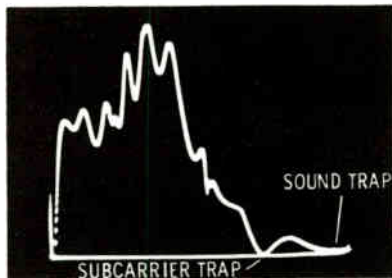
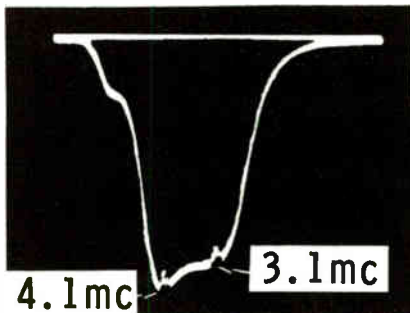
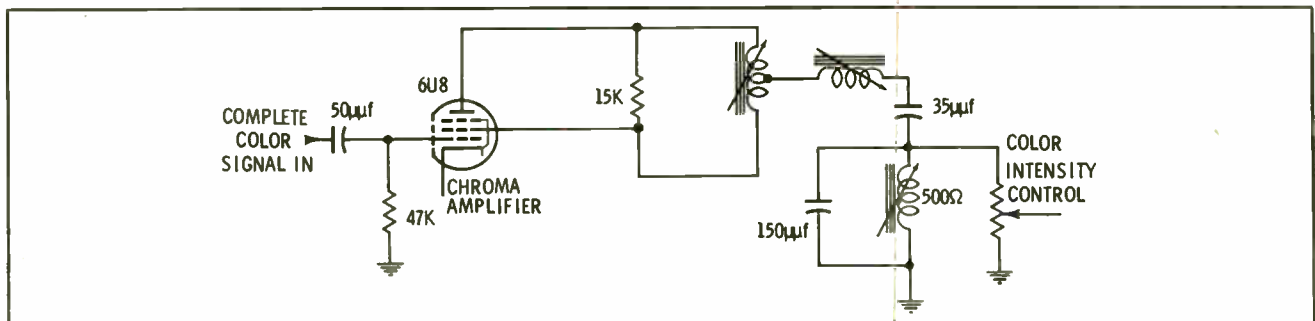
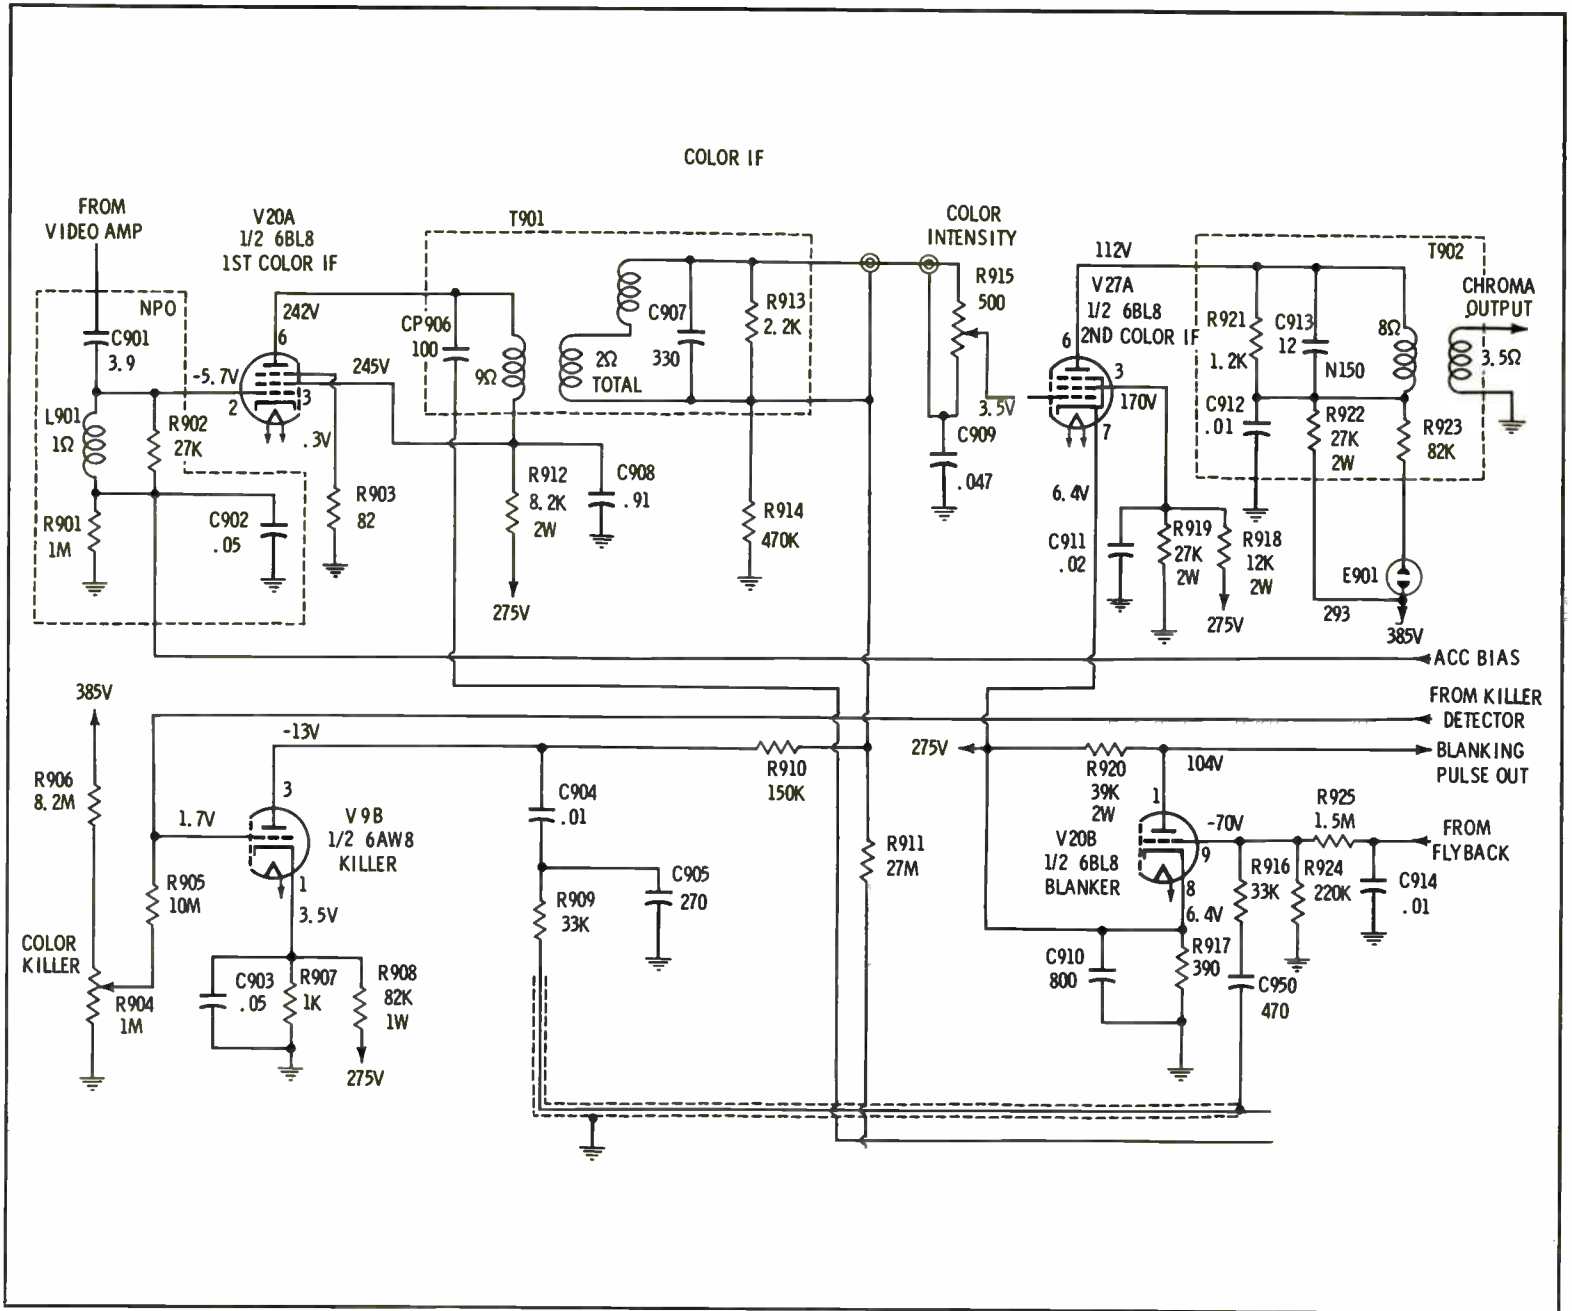

Fig. 5-4. Frequency-response curve for a Y amplifier.
Fig. 5-5. Frequency-response curve for a bandpass amplifier.
Fig. 5-6. Chroma amplifier.
Fig. 5-7. Color I-F amplifiers.
A frequency-response curve for one type of Y amplifier is shown in Fig. 5-4. It is evident that frequencies below 3.58 mc are passed, while the chroma signal is blocked. The frequency response for a chroma-bandpass amplifier is shown in Fig. 5-5. Notice that the 3.58-mc chroma signal is passed, while the comparatively low-frequency Y signal is blocked. Common
You will find circuit configurations of different color receivers utilized in this section. A common method of attenuating the Y signal is to employ a small coupling capacitor at the input of the chroma amplifier (50-mmf capacitor in Fig. 5-6). Subsequent separation of the chroma and Y signals is accomplished by the tuned circuits in the plate branch of the 6U8. When the slugs are adjusted correctly, a chroma response curve similar to the one shown in Fig. 5-5 is obtained. Note that the "notches" in the curve are not introduced by the chroma amplifier. These are frequency markers (absorption markers) produced by the sweep-alignment equipment.
The chroma amplifiers are sometimes called color i-f amplifiers (Fig. 5-7). Regardless of terminology, the function of this receiver section is always the same. There are several basic features that we should observe in Fig. 5-7. First, the gain of the chroma amplifiers, adjusted for normal reception, is not great. The signal at the grid of the first color i-f stage has an amplitude of 14.5 volts p-p. The signal at the plate of V20A has an amplitude of 20 volts p-p. The principal function of this stage is not to increase chroma signal voltage, but to process the signal and maintain a relatively constant level via acc action. The automatic-control bias on the grid of V20A is proportional to the burst amplitude.
Second, there is a reserve gain in the first stage. Note that the 20-volt p-p signal at the plate of V20A is normally reduced to 2 volts p-p at the grid of V27A in Fig. 5-7. This reduction is caused by the voltage-divider action of the color-intensity control. V27A provides a gain of about 4 times. In case the received signal is weak, the color-intensity control can be advanced to obtain the normal 9-volt p-p output at the plate of V27A.
Pulsing the cathode of V27A causes the chroma signal at the plate to ride on a sawtooth waveform. The sawtooth is incidental and has no functional significance. In other words, the chroma output from T902 in Fig. 5-7 consists of the chroma signal only. The sawtooth has been suppressed, because transformer T902 has a center frequency of 3.58-mc and cannot respond to the comparatively low frequencies that make up the sawtooth waveform. We see that a high-frequency tuned transformer can be compared in this respect with a small coupling capacitor, such as the 50-mmF capacitor in Fig. 5-6.
A word of caution concerning alignment is in order here. Do *not* check the alignment of the chroma amplifier until all other trouble possibilities have been eliminated. You will find that misalignment is seldom the cause of trouble in this section, unless someone has misaligned the receiver. Of course, there are rare exceptions: for example, it is possible for a defect to occur in L901, T901, or T902 (Fig. 5-7) which throws the transformer out of alignment. Since such defects seldom occur, it is good practice to investigate all other components first.
signal channel have been checked or replaced. If you find a normal waveform at the grid of the first chroma-amplifier tube (V20A in Fig. 5-7), the possibility of trouble in the black-and-white section of the receiver can be dismissed.
The possibility of trouble from the acc section is quickly confirmed by measuring the bias at the grid of the color amplifier (V20A in Fig. 5-7). In this example, the normal operating bias is  $-5.7$  volts. You can clamp the acc bias line, if it seems desirable to check operation over the normal range. Trouble localized to the acc section was discussed in Chapter 3. To check for poor contact of tube pins, wiggle the tubes slightly in their sockets. If you must dig deeper, make a systematic check of plate and screen voltages. For example, leakage in C908 (Fig. 5-7) will reduce both plate and screen voltages on V20A. A similar trouble can be caused if R192 has increased in value.
If the plate and screen voltages are too high, measure the cathode bias. It is possible that the cathode resistor has increased in value. For example, if R903 in Fig. 5-7 becomes badly overheated (from a shorted tube), its resistance may be increased. Note that if R903 should be burned open, you will measure 275 volts at the plate of V20A, instead of 242 volts. The opposite trouble symptom is caused by a shorted cathode-bypass capacitor. For example, if C910 becomes shorted (Fig. 5-7), you will measure low plate and screen voltages at V27A. R917 is a common cathode resistor for V20B and V27A.
This trouble symptom can be caused by poor alignment or regeneration in the i-f amplifier. However, if you observe a correct waveshape at the grid of the color-amplifier tube (V20A in Fig. 5-7), the i-f amplifier is cleared from suspicion. If the trouble is located in the chroma-amplifier system, it will show up in
There remains a possibility of a defective or misaligned chroma transformer. With reference to Fig. 5-7, capacitor C907 or resistor R193 in the first-color i-f output transformer might be open. If the capacitor is open, the transformer cannot be brought into correct alignment. On the other hand, if resistor R193 is open, the frequency-response curve will be peaked and have insufficient bandwidth. The same type of trouble can apply to transformer T902. Detailed chroma alignment procedures should be followed if alignment is called for.
The first step is to check the grid bias on the chroma-amplifier stages. The bias on V27A in Fig. 5-7 is the place most likely to start, because the color-intensity control does not affect its output. If you measure zero or low bias, check the color-killer stage. However, the bias voltage could be correct, and excessive output result from a defect in the color-intensity control circuit.
Incorrect bias at the grid of V20A causes distortion of the chroma signal, but abnormally intense colors are not a direct clue; the color-intensity control will simply be set to a lower point to compensate for the increased gain of V20A. This trouble was explained under (2). Regeneration in the bandpass-amplifier stage can cause abnormally intense colors. An accompanying symptom is hue distortion. The prime suspect is an open capacitor, such as C911 in Fig. 5-7.
However, you will generally pinpoint the trouble to a defective capacitor in the chroma section, which either detunes a chroma transformer or causes regeneration. Do not attempt realignment, except as a final approach after all possibility of component defects has been eliminated. A difficult to locate trouble is poor grounding of coax cables or shield cans. For example, check the grounding of the coax cable to the color-intensity control in Fig. 5-7, and the grounding of shields over L901, T901, and T902.
- a. Intermittent signal to grid of the color amplifier (V20A in Fig. 5-7).
For example, if C901 in Fig. 5-7 opens intermittently, a scope check at pin 2 of V20A will show up this defect. Don't overlook the possibility of a tube socket having poor pin contact. There is also the possibility of a broken conductor on the printed circuit board. Suppose the input signal to the color amplifier remains normal during the intermittent interval. This clears the input circuit of the color amplifier from suspicion. Apply the low-capacity probe to the plate of the color amplifier, and proceed as before. If you have more than one scope available, monitor the chroma signal at more than one point in the network and speed up the localization procedure.